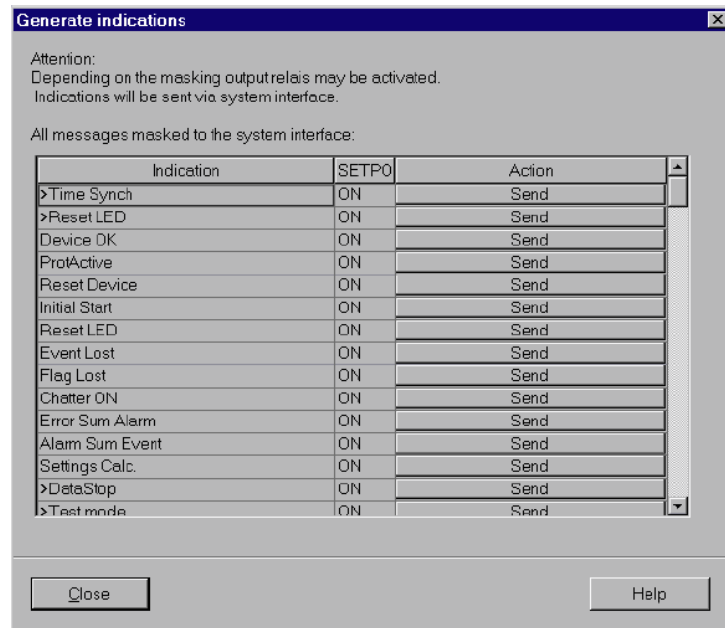

Figure 3-16 System interface test with dialog box: Generating indications – Example
- Double-click on **Testing Messages for System Interface** shown in the list view. The dialog box **Generate Indications** is opened (see Figure 3-16).